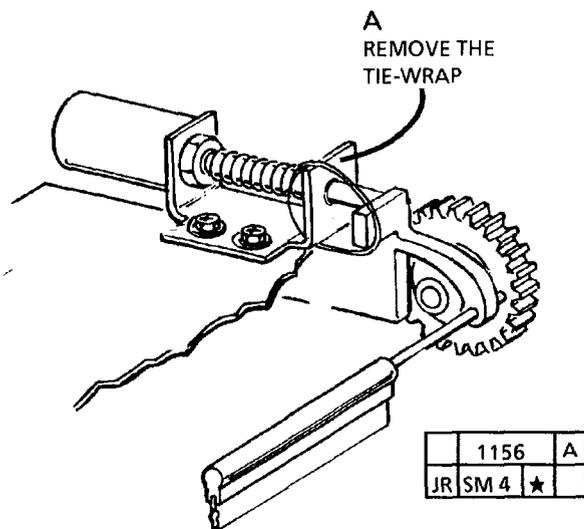

Figure 7. Remove the Tie-Wrap on the Solenoid Weight
9. (FIGURE 7): REMOVE THE TIE-WRAP ON THE SOLENOID WEIGHT.